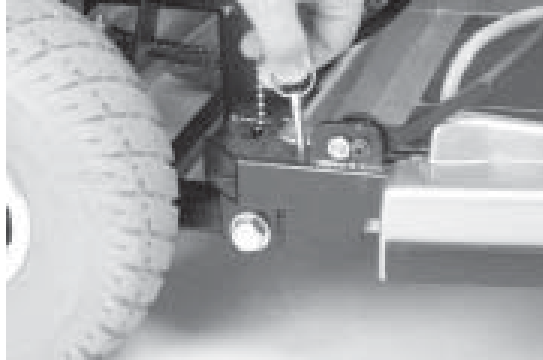

FIGURE 23. REMOVING THE BALL DETENT PIN
9. Remove the ball detent pin from the frame. See figure 23.